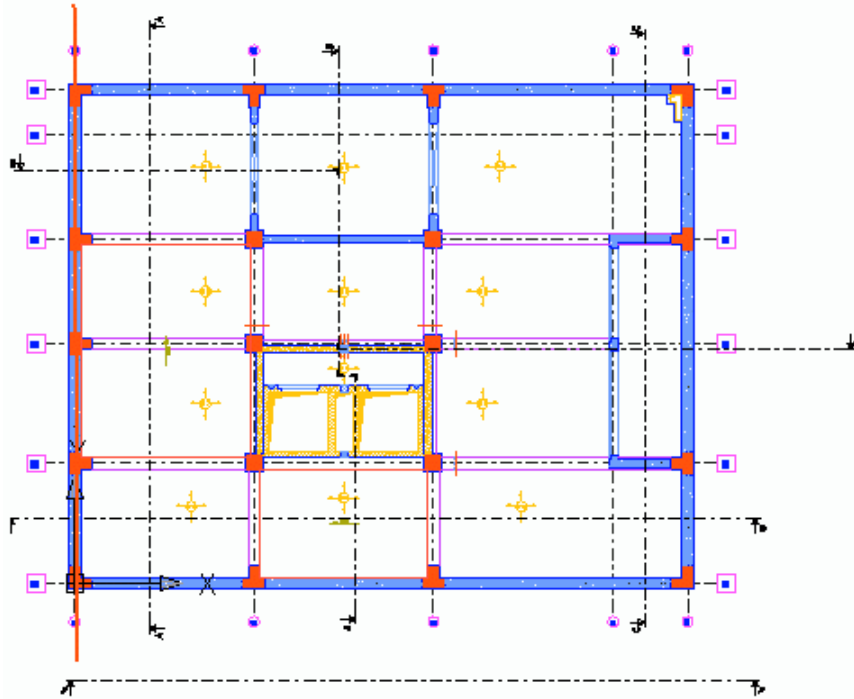

Figure 281: Create the first intersection dimension
In this step, you will dimension the elements along the **C** axis (see the red line in Figure 281).
2. Click two points to define the dimension line as shown in Figure 281.